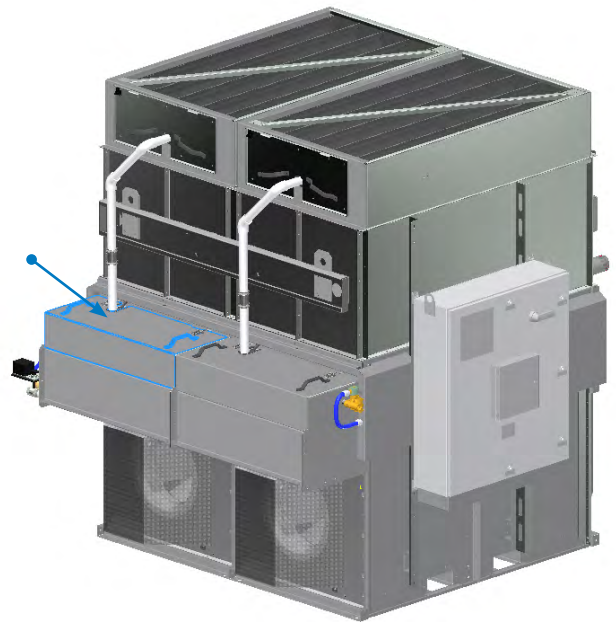

Figure 13. Location of Pump Wire
3. Remove the basin cover, then find pump wire stored within the basin. See **Figure 13** on **page 14**.